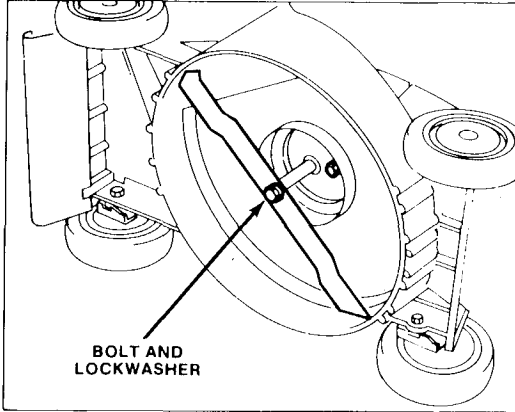

Figure 16
3. Tip mower on its left side (Fig. 16). Avoid rotating blade. Starting problems may result.
5. **REMOVING BLADE** — Grasp end of blade using a rag or thickly padded glove. Remove blade bolt, lock washer and blade (Fig. 16).